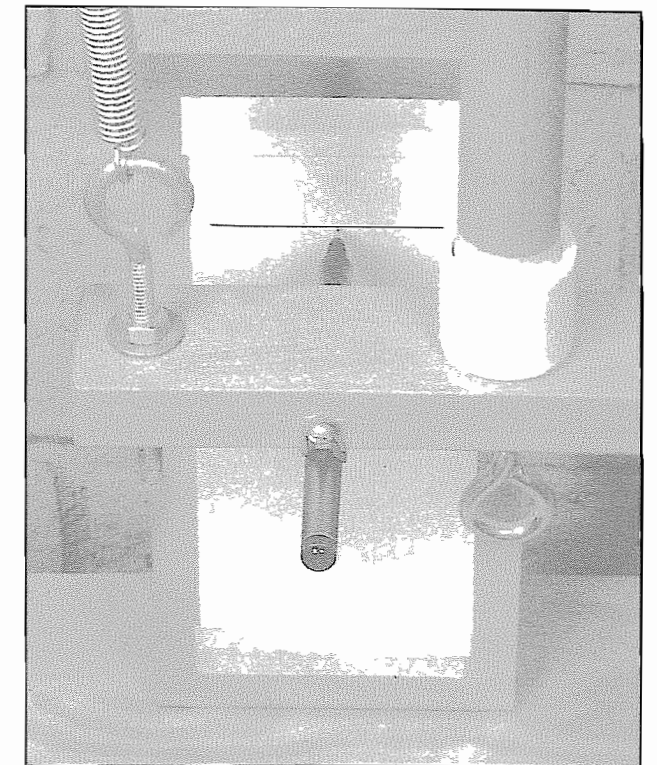

Figure 18-12. A short horizontal line, drawn where the pen touches the paper, represents a thrust of 0 lbs.
3. Tape a piece of paper to the sheet metal paper holder. Slide the paper up against pen's tip, and mark the point where it touches the paper with a short, horizontal line (Figure 18-12). I call this the **zero line**, and it represents a thrust of **0 lbs.**